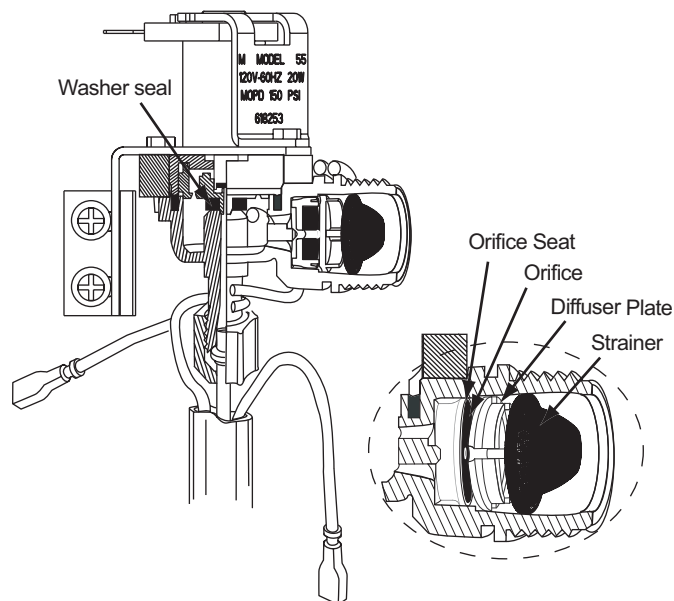

Figure 54. Solenoid water valve components
3. Carefully wrap one white heater wire around the valve as shown in Figure 54. *Do not exceed two wraps at each point.*
The water valve inlet strainer should be checked annually for scale and sediment deposits. The inlet connection internal components should only be checked when the mold overfills. To access the strainer and the components housed in the inlet fitting (see Figure 54):
3. Check strainer position. If the strainer is seated approximately 1/8 inch in the fitting, the orifice seat, orifice, diffuser plate and strainer are in their correct position. A creased strainer end usually indicates that the diffuser plate, orifice, and orifice seat are not in their correct position. These components should be repositioned as shown in Figure 54. To reposition components correctly: